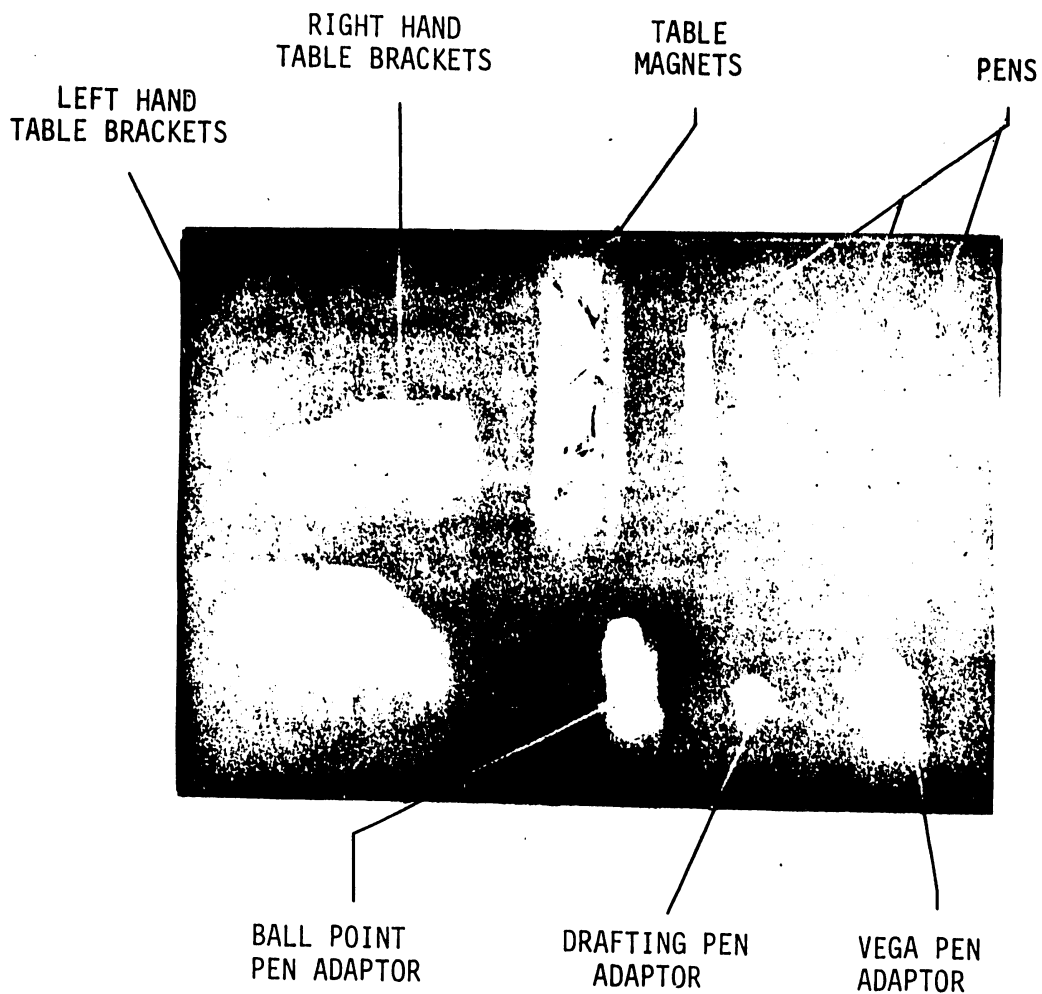

FIGURE 34
7.2 DESCRIPTION OF ACCESSORIES - See Figure 34